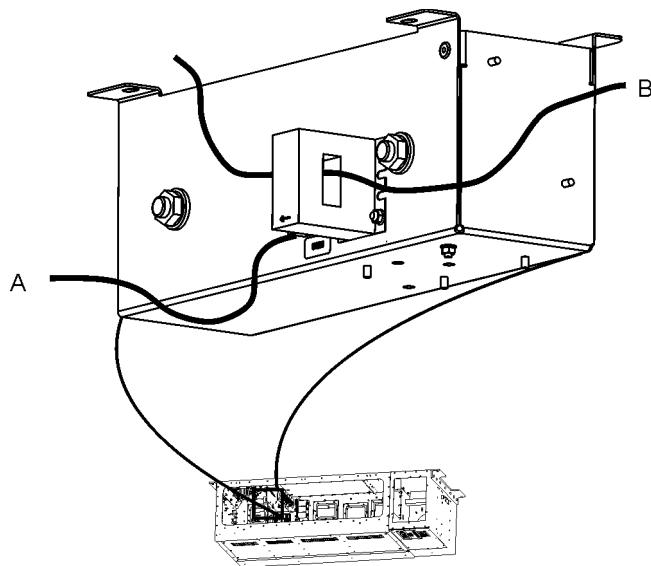

Figure 5-33: U326 Electrical Connections on U326
- a. Disconnect cable A (see Figure 5-33). There is one cable which is connected to the U326. Unplug this cable.
- c. Draw cable B back through the current sensor to disengage from the current sensor. See Figure 5-33.
- a. Connect cable A (see Figure 5-33). There is one cable which is connected to the U326. Plug this cable in.